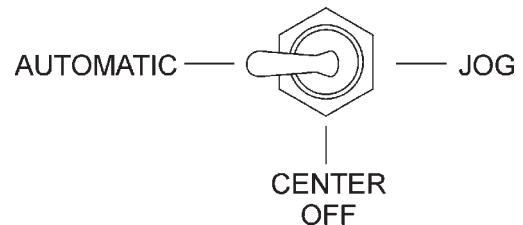

Figure 22. Cylinder Stroke Control Switch (Automatic)
5. Turn the **Cylinder Stroke Control switch** (Figure 22) to the **AUTOMATIC** position.